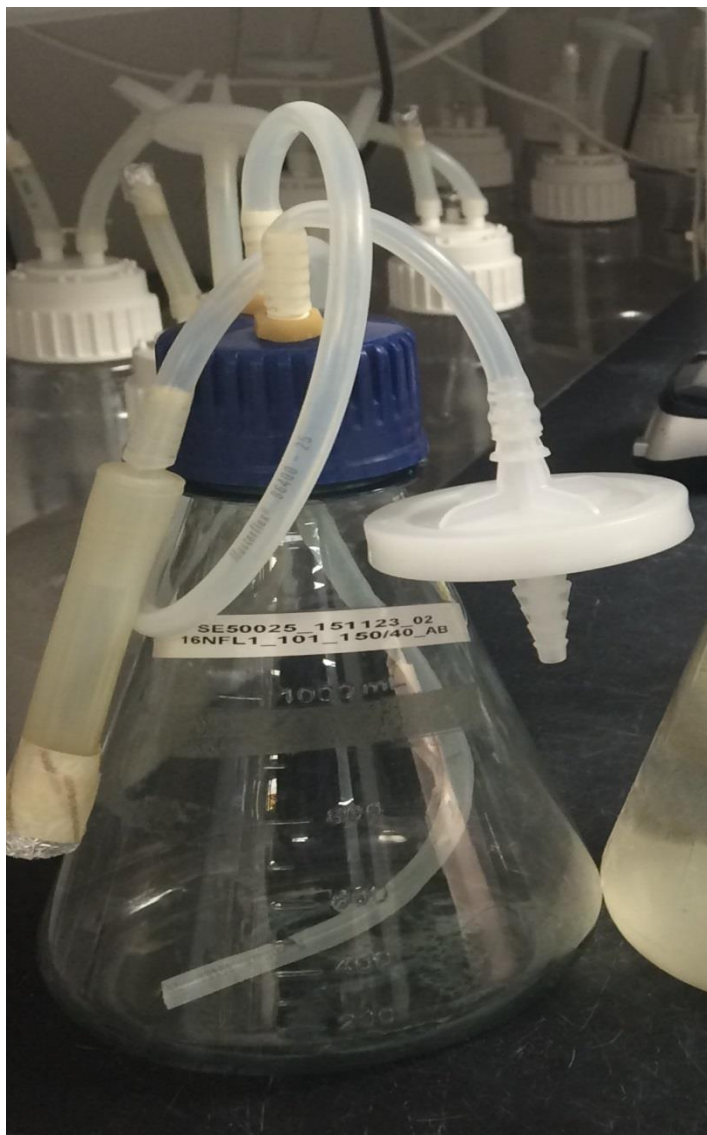

Figure 5 – Flask with transfer top.
2.3.2.2. Remove one flask lid at a time and replace it with a transfer top. See figure 5.